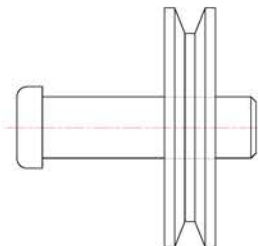

Fig. 14.18 The revised spindle.dwg drawing
7. Open **Fig15.dwg** and make changes as shown in Fig. 14.18.